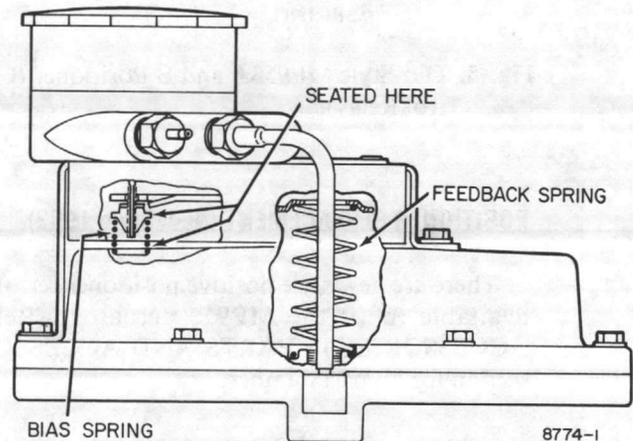

Fig. 6. MP953B Bias Spring and Feedback Spring Position.
2. Remove and replace positioner assembly, being sure bias and feedback springs (Fig. 6) are properly seated.